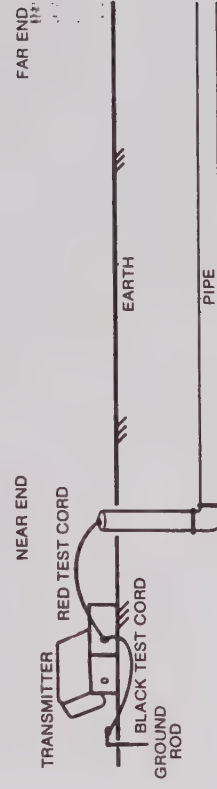

Figure 2-5.
4. Connect the black test cord clip to the ground rod (see Figure 2-5).
5. Plug the jack end of the red/black test cord into the RED/BLACK TEST CORD jack receptacle on the transmitter (see Figure 2-5).